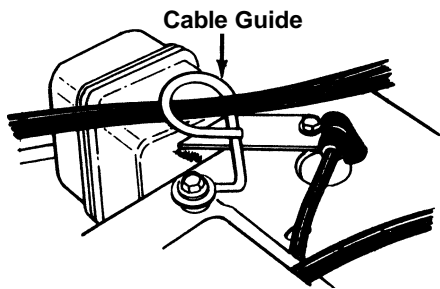

Figure 6
11. If not already attached, slip the cables that run from the handle panel to the chute into the cable guide located on top of the engine. See Figure 6.